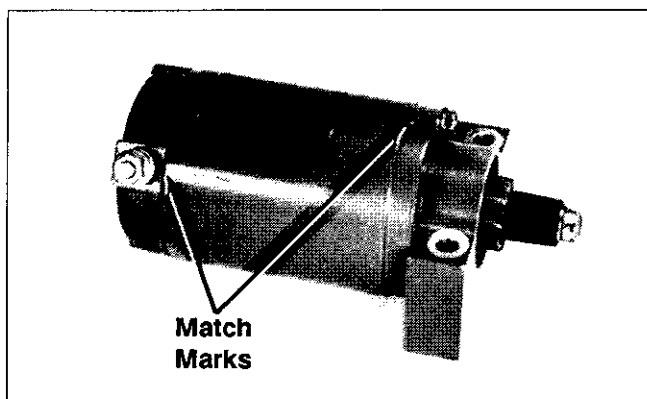

Figure 8-16. UTE Starter Assembly Match Marks.
2. Scribe a small line on the drive end cap, opposite the line on the starter frame. These lines will serve as match marks when reassembling the starter. See Figure 8-16 on page 8.18.
3. Install the drive end cap over the drive shaft. Make sure the match marks on the end cap and starter frame are aligned. See Figure 8-16.
4. Using new parts from appropriate kit or reinstalling existing drive components, assemble in sequence shown in Figure 8-16. Make sure spline has been cleaned and lubricated as described in Eaton starter service instructions.